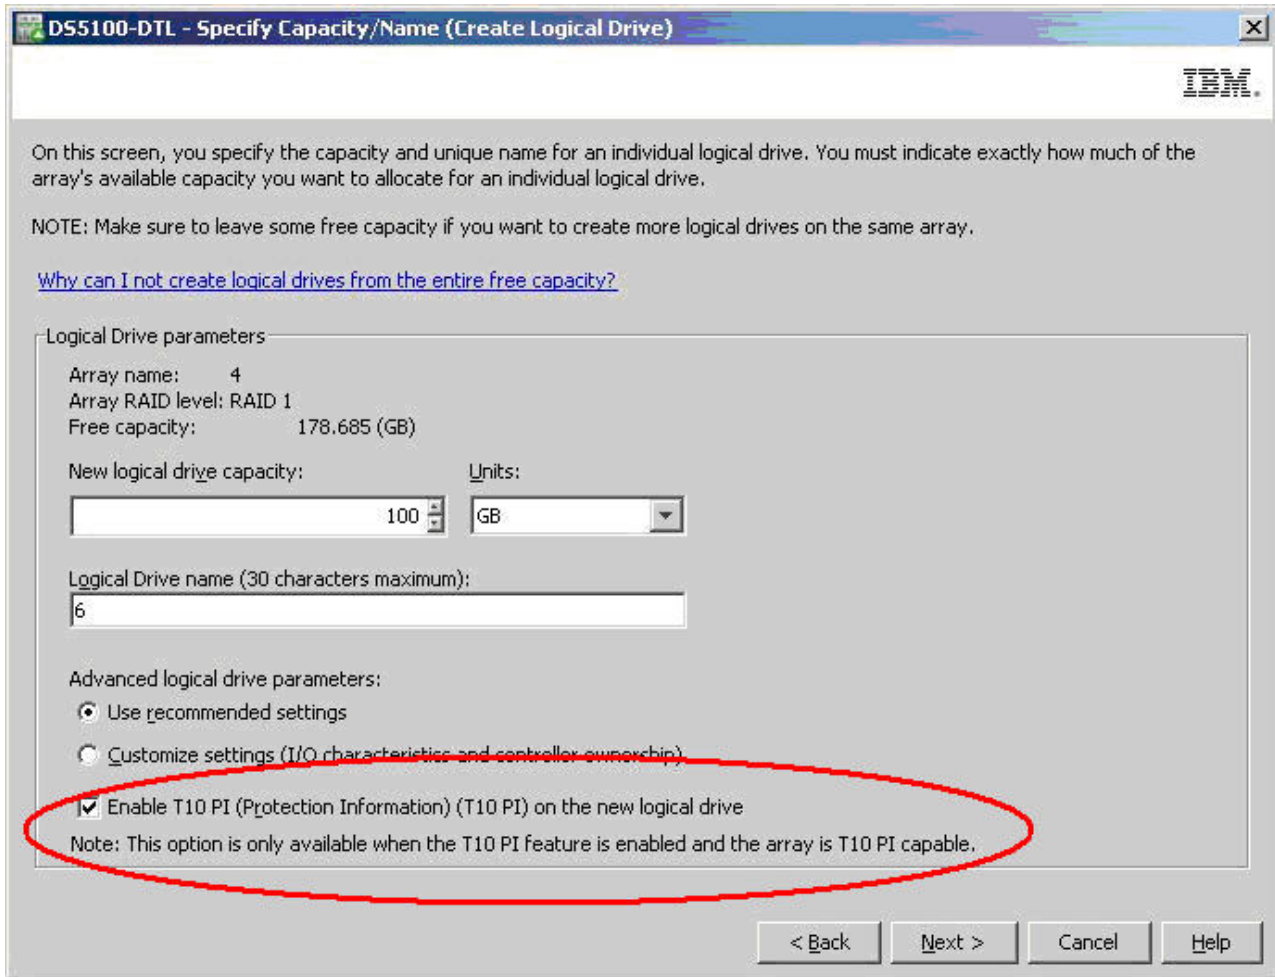

Figure 9. Enabling T10 PI on a logical drive
- In the Specify Capacity/Name (Create Logical Drive) dialog click **Enable T10 PI (Protection Information) (T10 PI) on the new logical drive** as shown in Figure 9 on page 66.